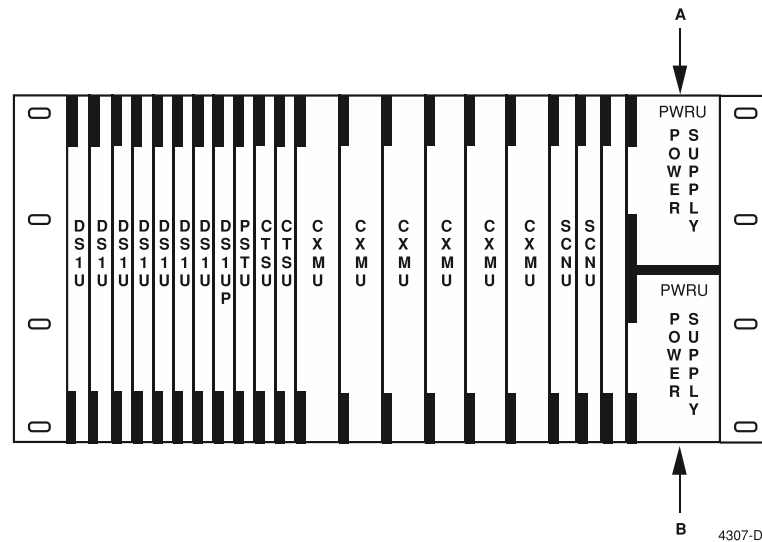

Figure 5-5. PWRU Mounting Slot Locations
5. Insert the PWRU into the upper power supply (PWRU A) location in the HDT mounting shelf as shown in Figure 5-5.